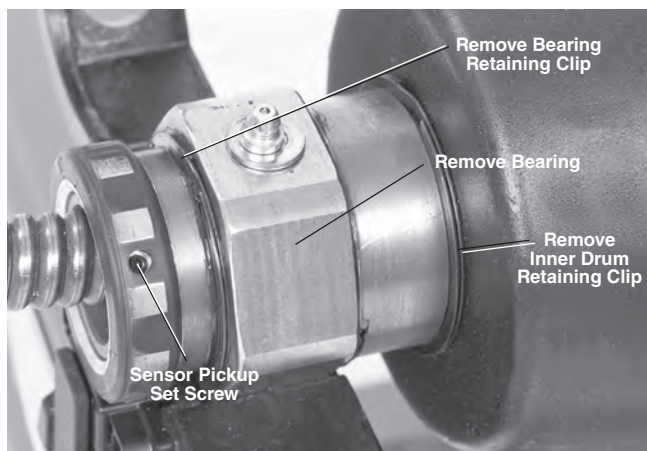

Figure 29 – Remove Retaining Ring and Inner Drum
4. Remove the outer retaining clip from the guide tube shaft (*Figure 29*). Slide bearing off the shaft.
inner drum, bearing and sensor ring by reversing *steps 3, 4 and 5*. Make sure everything is properly installed per *Figure 29* and secure.